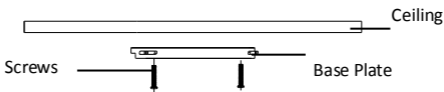

Figure 2-3 Mounting the Base Plate
- Attach the base plate to the ceiling and secure it with the supplied 4 self-tapping screws as shown in Figure 2-3.